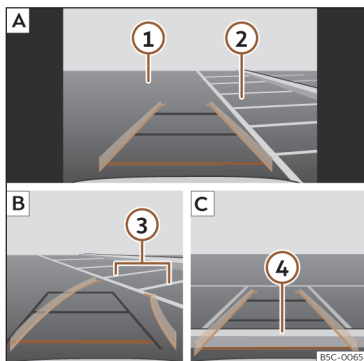

Fig. 154 Display on the infotainment system screen: parking with the reverse assistant.
Key to the >>> **Fig. 154:**
- Stop the vehicle in front of the parking space >>> **Fig. 154** **2** **A**.